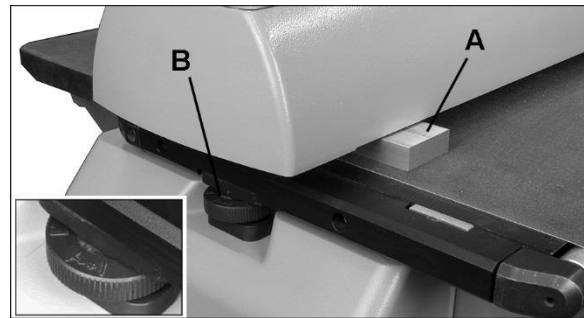

Figure 13
- Insert gauge (A, Figure 13) between drum and conveyor bed at outboard side of drum.
- Turn adjustment dial (B, Figure 13) to raise or lower outboard end of table. Follow directional marks on dial (+ to raise).
3. If a ridge is visible where the drum overlaps, lower table at outboard end slightly by turning dial (B, Figure 13).